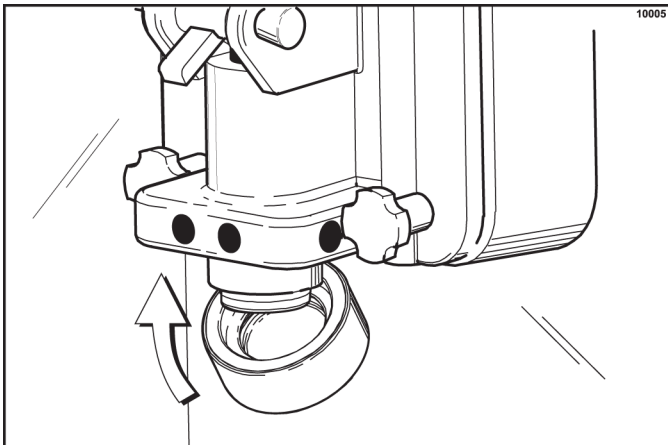

Figure 6-47
15. Place the spout cap O-ring in the spout cap. Fill the spout cap with sanitizing solution. While holding the draw valve closed, install the spout cap over the end of the door spout. This will cause sanitizing solution to backflow through the syrup ports. (See Figure 6-47.)